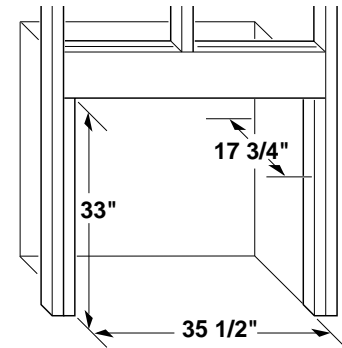

Figure 13 - Rough Opening for Installing in Wall
- Frame in rough opening. Use dimensions shown in Figure 13 for the rough opening.